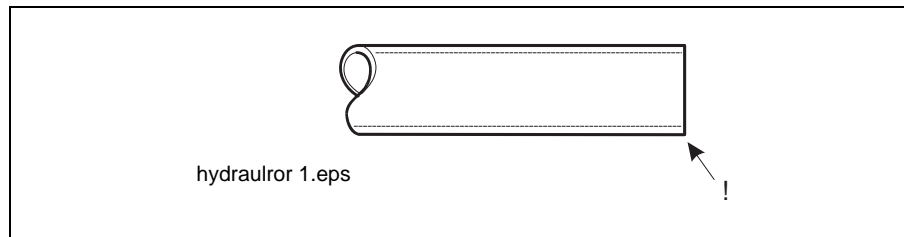

Figure 8.17 Cut at right angles!
1. The pipe should be cut at right angles by means of a pipe cutter (see figure 8.17 and 8.18) after which it is deburred internally and externally, and carefully cleaned.